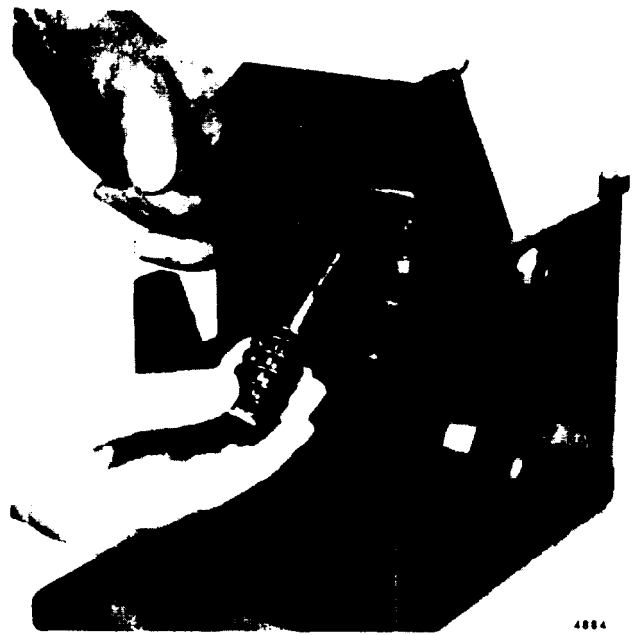

Figure 11C-24. Removing or Installing Plunger, Follower and Spring
4. Invert the fixture and, using socket J 4983-01, loosen the nut on the injector body (see Figure 11C-25 on page 11C-16).